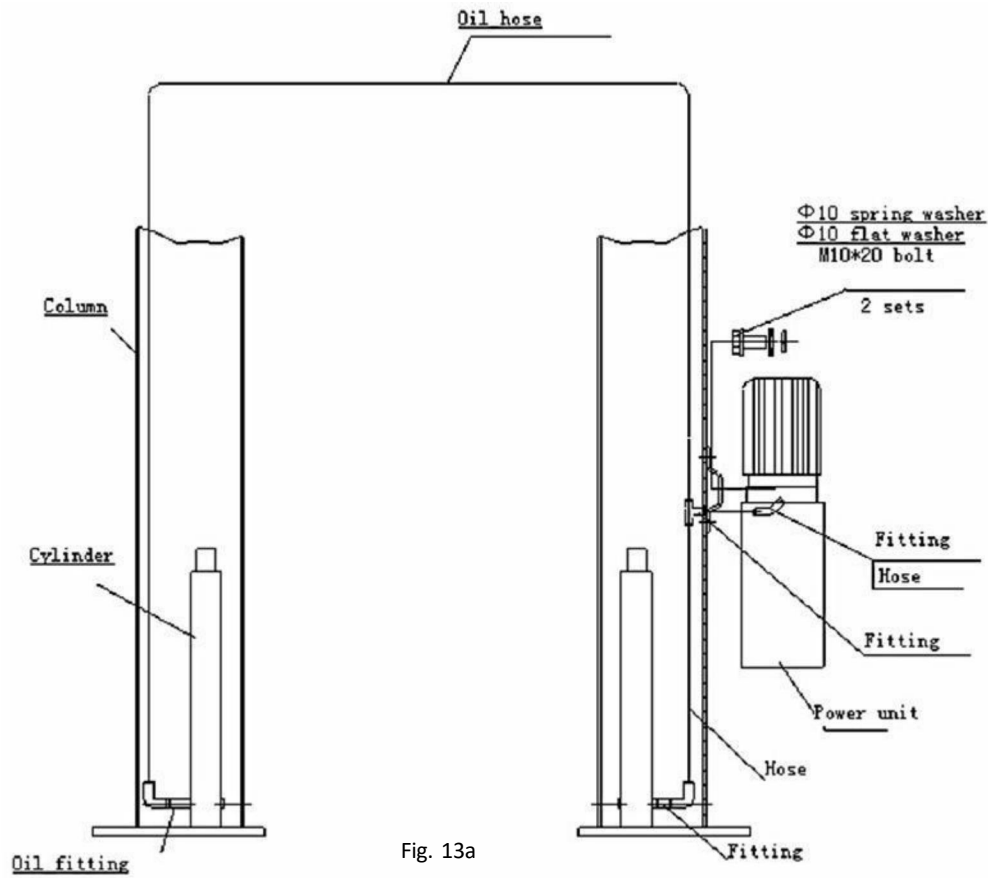
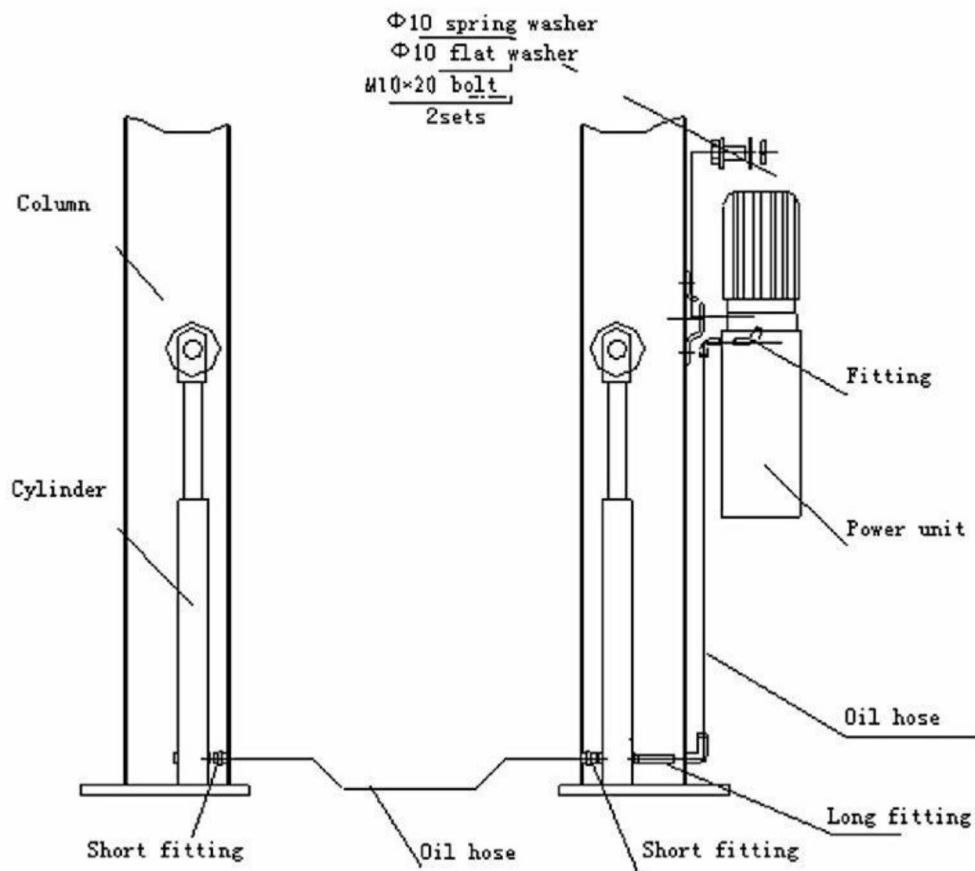

Fig. 13a
Fig. 13b
- Use two M10 Bolt s and washers to fix the power unit (as shown in Fig. 13a、13b). for L1100 models, install the hydraulic line as shown in Fig. 13a , for L1000 models, , install the hydraulic line as shown in Fig. 13b and tighten all the fittings top revent oil leakage.